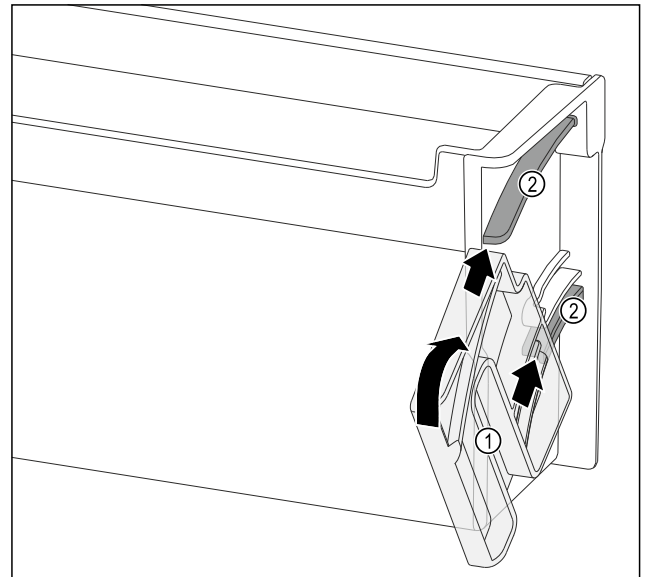

Fig. 116
- ▶ Position the turning unit Fig. 116 (1) so that the recesses are exactly opposite the guide channels Fig. 116 (2) of the door rack.
- ▶ Turn the turning unit Fig. 116 (1) towards the specified direction.